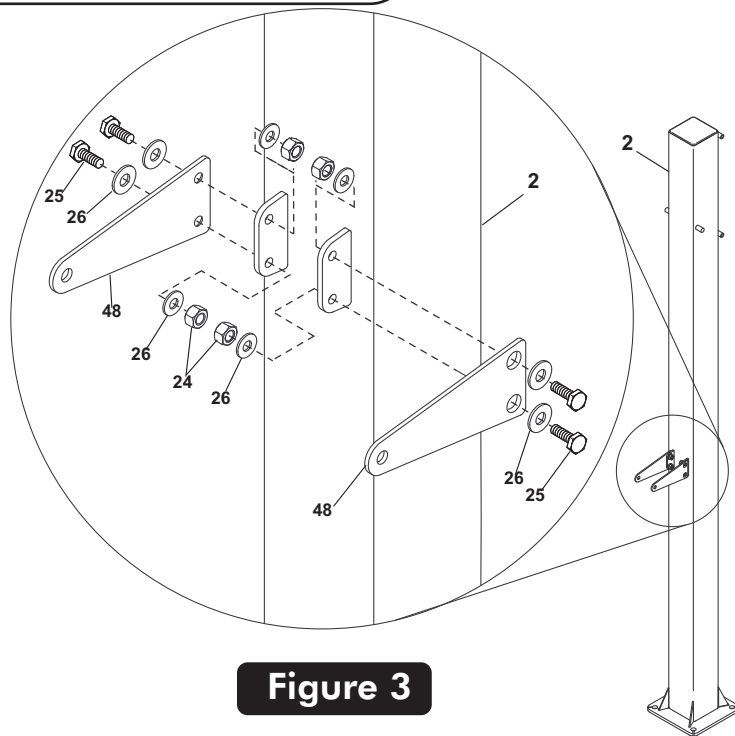

Figure 3
1. Attach Post Brackets (#48) to outside of brackets on back of Post Assembly (#2). Secure with two Hex Head Bolts (#25), four Flat Head Washers (#26) and two Locknuts (#24) in **each Bracket** (#48). See Figure 3.